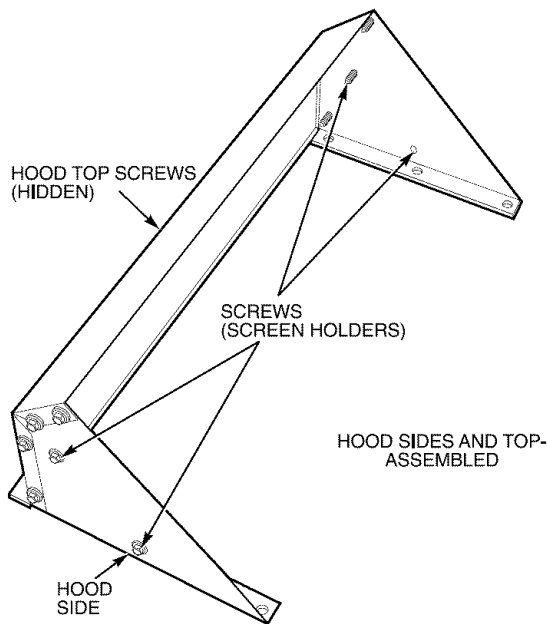
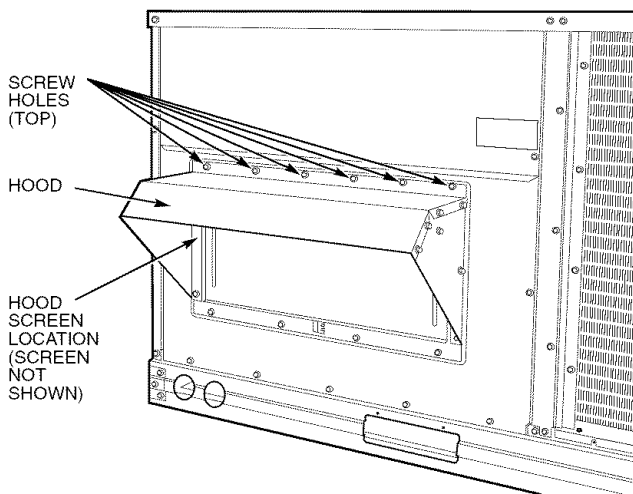

Fig. 12 — Outdoor-Air Hood Details
Fig. 13 — Optional Manual Outdoor-Air Damper with Hood Attached
5. Place the hood on the front of the outdoor air opening panel. See Fig. 12 for hood details. Secure the top of the hood with the 6 screws removed in Step 3. See Fig. 13.
7. Align the screw holes on the hood with the screw holes on the side of manual outdoor-air damper. See Fig. 12 and 13. Secure the hood with 8 screws from Step 6.
9. Remove and save the screws currently on the sides of hood. Insert the screen. Secure the screen to the hood using the screws. See Fig. 13.